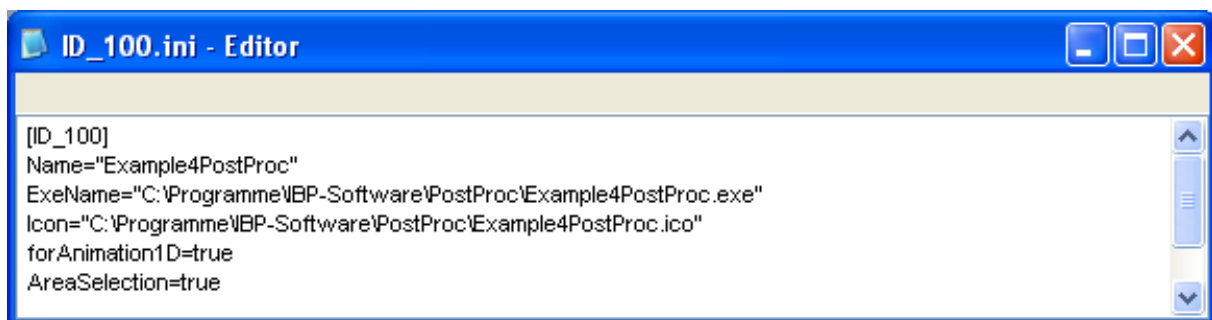

Fig. 3: Visualization of the registration file for postprocessors.
- 2) The registration file ID_100.ini tells WUFI® about the additional postprocessor. You may have to update the value of “ExeName” and “Icon” in this file to point to the postprocessor “Example4PostProc.exe” (see Fig. 3).
The registration file must be located in the “PostProc” subfolder of WUFI® and must have a name between ID_100.ini and ID_199.ini. Fig. 3 visualizes and Table 1 describes the content of this file.